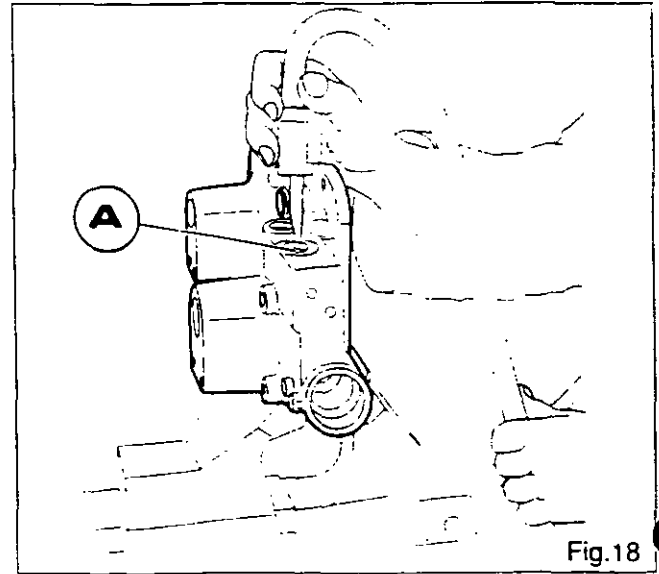
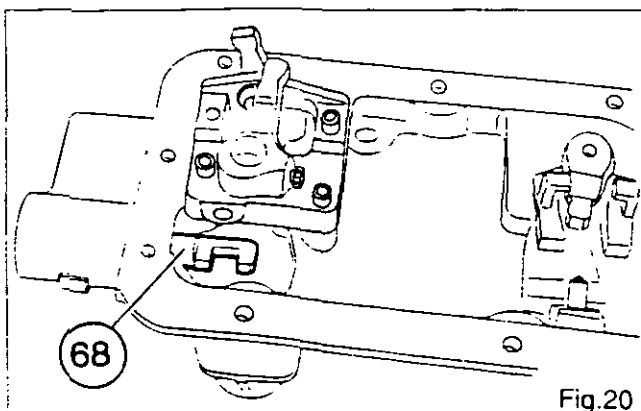

Fig.18
Fig.20
32. With a jet of compressed air, check that the **A** and **B** passages are not blocked (Fig. 18 and 19).
33. Clean the mating face of cover (57).
36. Refit the selecting arm assembly and bolt (34).
38. Refit bolts (44), (45) and (47) and tighten them to a torque of 25 to 35 Nm
39. Replace O-ring (69) on piston rod (68). Lubricate the combination and insert it in the bore in the cover.
**N.B. The notch in the rod must face down (Fig. 20).**